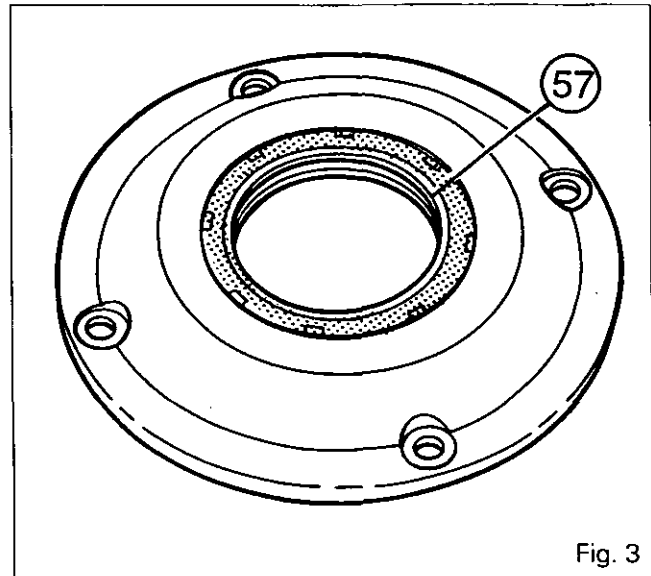

Fig. 3
2. Place the protector Nr. 3378052M1 over the input shaft (7) (5F). Remove the screws (54). Remove the case (9) and the O-ring (1).
3. Extract the oil seal (57) (Fig.3).